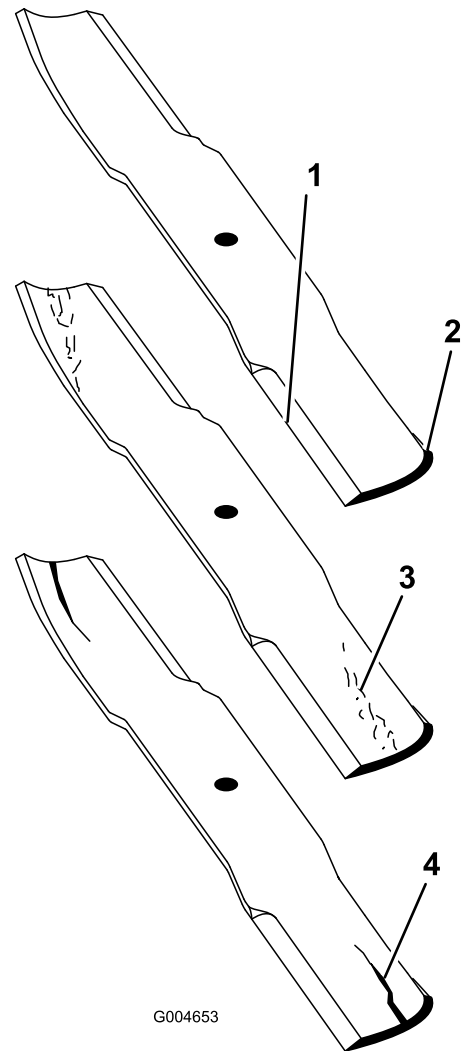

Figure 24
3. Examine the cutting ends of the blade carefully, especially where the flat and curved parts of the blade meet (**Figure 24**).
Note: Because sand and abrasive material can wear away the metal that connects the flat and curved parts of the blade, check the blade before using the mower. If you notice wear (**Figure 24**), replace the blade.